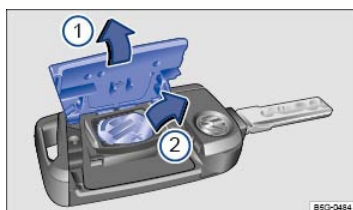

Fig. 56 Remote control vehicle key: Opening the battery compartment cover and removing the old battery.
The battery is on the back of the remote control vehicle key under a cover ⇒ Fig. 56①.
- Remove the cover on the back of the remote control vehicle key ⇒ Fig. 56① in the direction of the arrow using a suitable object such as a coin ⇒ .
- Use a thin object to pry the battery out of the battery compartment ⇒ Fig. 56②.